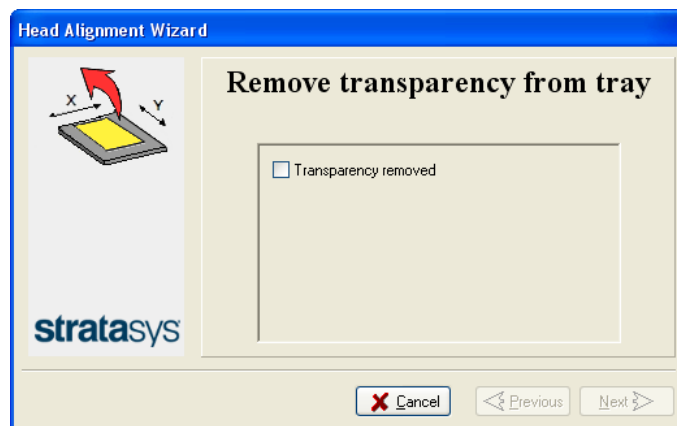

Figure 6-49 Head Alignment wizard—steps 7–9
9. In the wizard screen shown in Figure 6-49, select the *Transparency removed* check box, and click **Next**.